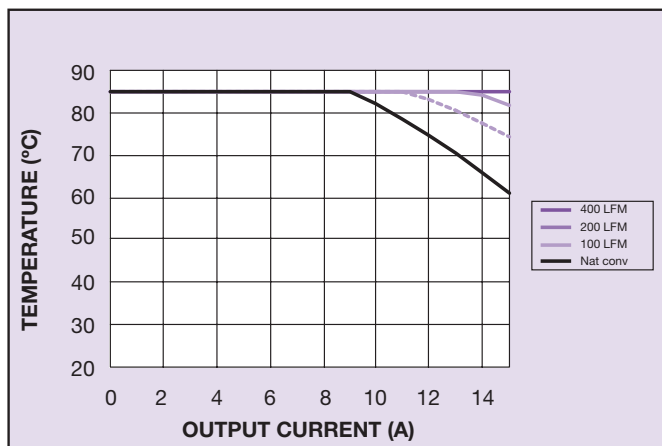

Figure 1 - Safe Operating Area
- See Figures 1 and 2 for safe operating curves.